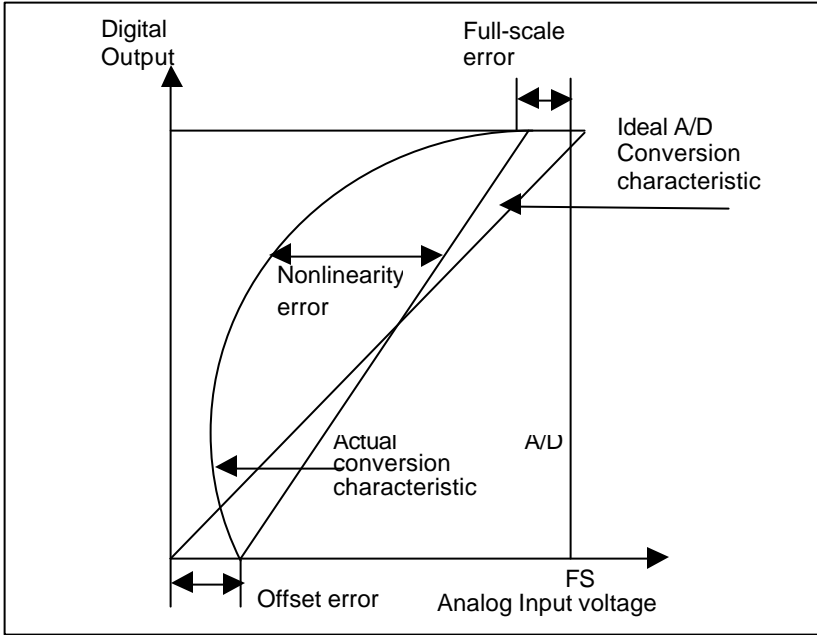

Figure 13.4 A/D Converter Accuracy Definitions (1)
- Offset error: Deviation from ideal A/D conversion characteristic of analog input voltage required to raise digital output from minimum voltage value 000000000 to 000000001 (figure 13.4)
- Full-scale error: Deviation from ideal A.D conversion characteristic of analog input voltage required to raise digital output from 111111110 to 111111111 (figure 13.4)